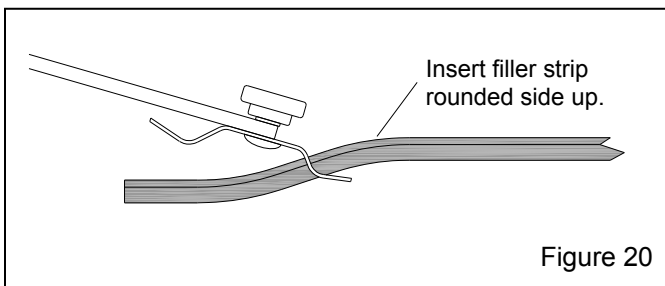

Figure 20
6.4.9. Wipe, or spray the filler strip with silicone or other lubricant to reduce friction. Insert about 2-inches of the strip into the installation tool, as shown in Figure 20.